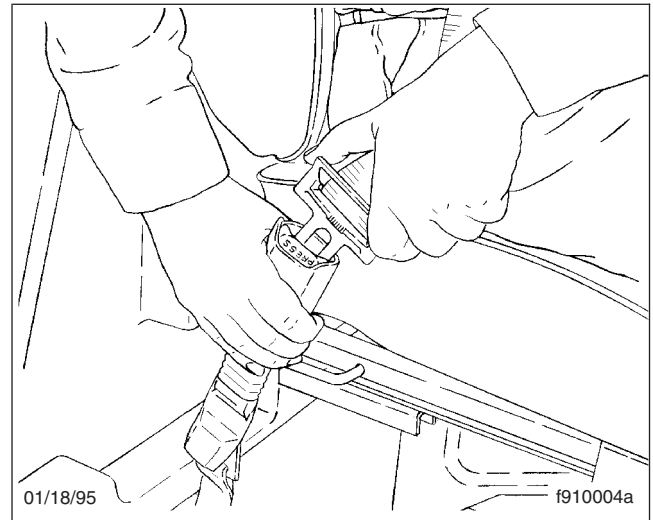

Fig. 7.6, Fastening the Three-Point Belt
2. Fasten the seat belt by pushing the latch into the buckle. Listen for an audible click. See Fig. 7.6.